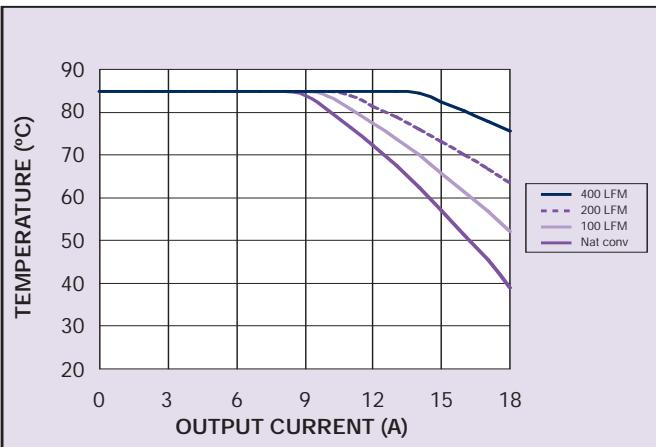

Figure 1 - Safe Operating Area
- 2 See Figure 1 for safe operating curve.